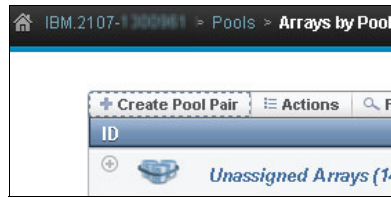

Figure 11-23 Create Pool Pair tab
2. Click **Arrays by Pool** to open the Array by Pool window, as shown Figure 11-23.
2. Click **Arrays by Pool** to open the Array by Pool window, as shown previously in Figure 11-23.